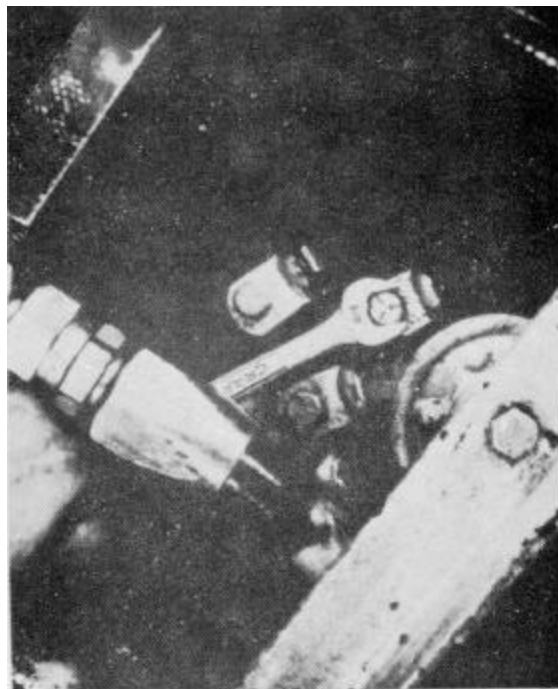

Figure 5-2
5. Remove the five power cables from the top rear of the traction motor using a 1/2 inch wrench (Fig. 5-2). Place the cables in a protected area.